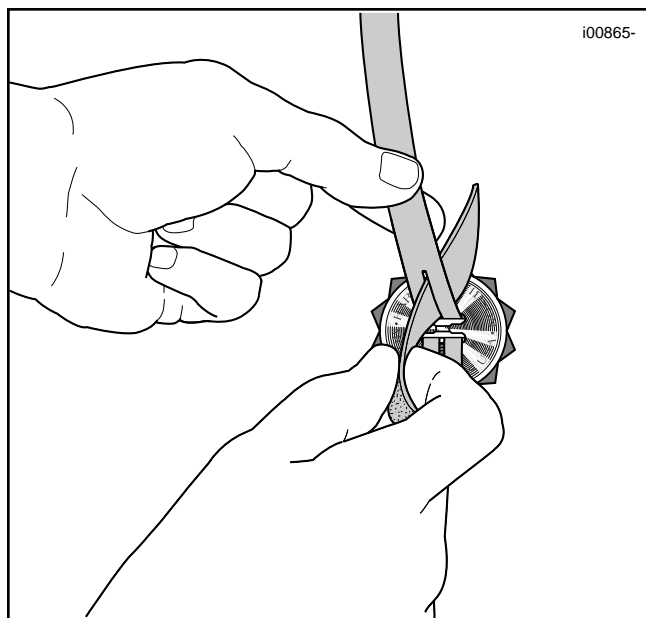

Figure 6. Slide Bottom Half Through Top Strap
4. See Figure 6. Slide the new bottom half (smooth) up through the top strap slit. You will now have a smooth top and a rough bottom strap. Smooth both straps downward until they lay flat.